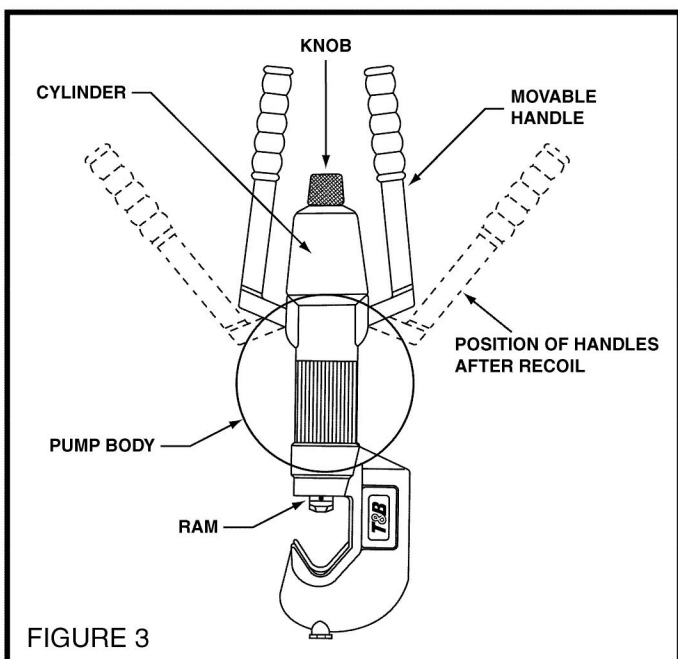

FIGURE 3
After installing a set of dies, the tool is ready to be operated. Operate several times checking for proper operation and leaks. Hold tool in vertical position, see Figure 3 to ensure ram lubrication.
- b. Rotate tool head to align with handles, see Figure 3.
NOTE: When the tool achieves max. pressure, the recoil will move pump handles away from cylinder, see Figure 3.
3. To retract ram, turn knob, see Figure 3. The retracting ram can be stopped at any position by releasing knob thereby reducing number of handle pumping strikes required for next compression.